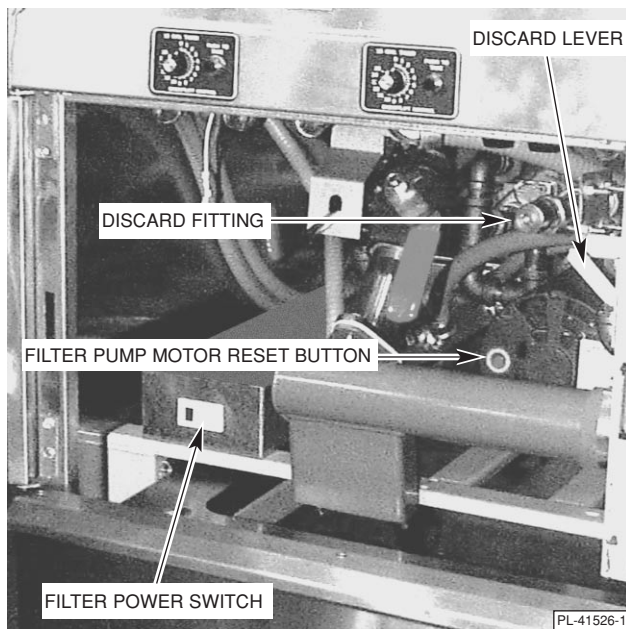
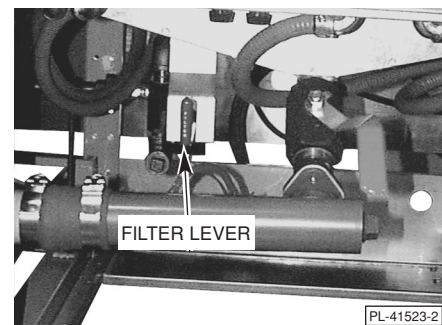
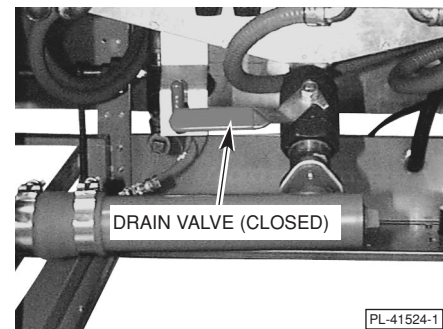

Fig. 6
Fig. 7
Fig. 8
- Brush residue at bottom of Fry Tank into drain tube. Flush out bottom of Fry Tank by turning Filter Power Switch ON (Fig. 6) and pulling Filter Lever (Fig. 7) forward.
- After allowing cooking oil to flush out the bottom of the Fry Tank, return Drain Valve to CLOSED position (Fig. 8) and allow oil to refill Fry Tank. Observe FULL line on Fry Tank wall. When done, push Filter Lever (Fig. 7) to rear.
- Connect Hose to Discard Fitting. Push Hose Fitting onto the Discard Fitting and release the Collar so the Hose Fitting is locked on, tight (Figs. 6, 9).
- Turn Filter Power Switch ON (Fig. 6).
3. Close the Drain Valve (Fig. 8) and fill the tank with a solution of water and non-corrosive, grease dissolving commercial cleaner (boilout compound), diluted to the cleaner manufacturer's instructions (refer to Tank Capacity, page 6).
6. Close the Drain Valve (Fig. 8) and refill the tank with clean hot (minimum 140°F) water. Add 1 cup of vinegar to neutralize alkaline left by the cleaner. Turn Fryer Power Switch ON and boil for a few minutes with the temperature control set at 190 – 212°F. Turn the Fryer Power Switch OFF when done.